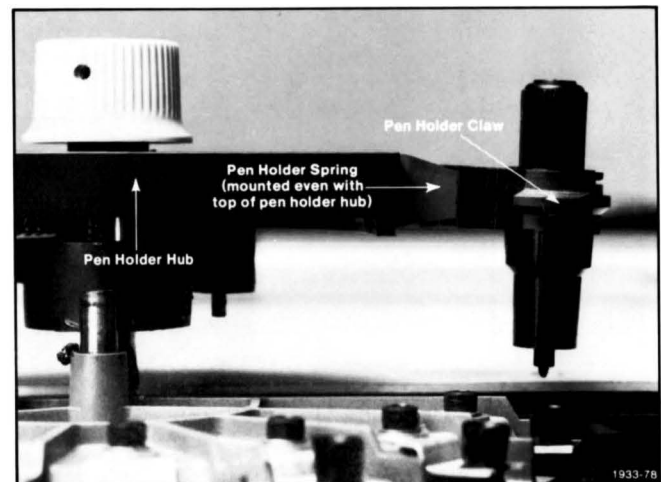

Figure 3-18. Pen Holder Hub and Pen Keeper Detail.
2. **Install** the replacement pen holder in the pen holder hub, ensuring that the top surface of the hub is even with the top surface of the pen holder spring (see Figure 3-18).